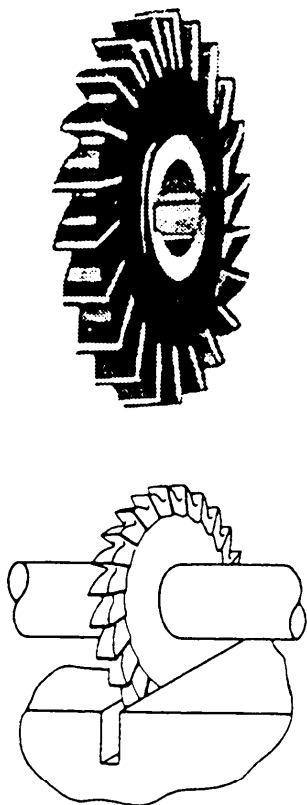

Figure 7-24.—Side milling cutter.
**SIDE MILLING CUTTER.**—The side milling cutter (fig. 7-24) is a plain milling cutter with teeth cut on both sides as well as on the periphery or circumference of the cutter. You can see that the portion of the cutter between the hub and the side of the teeth is thinner to give more chip clearance. These cutters are often used in pairs to mill parallel sides. This process is called straddle milling. Cutters more than 8 inches in diameter are usually made with inserted teeth. The size designation is the same as for plain milling cutters.